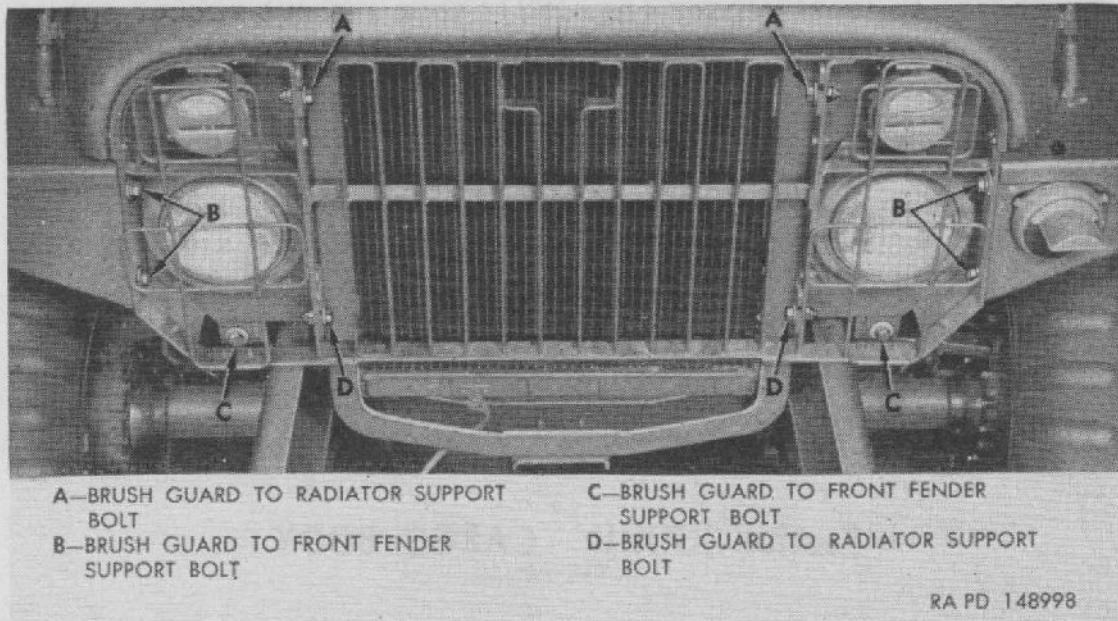

Figure 182. Brush guard installed.
a. REMOVAL. Remove the ten bolts, nuts, and washers indicated in figure 182; then pull brush guard forward and upward to remove from vehicle.
b. INSTALLATION. Position brush guard to vehicle with holes alined. Start ten bolts, washers, and nuts, indicated in figure 182; then tighten all nuts and bolts firmly.